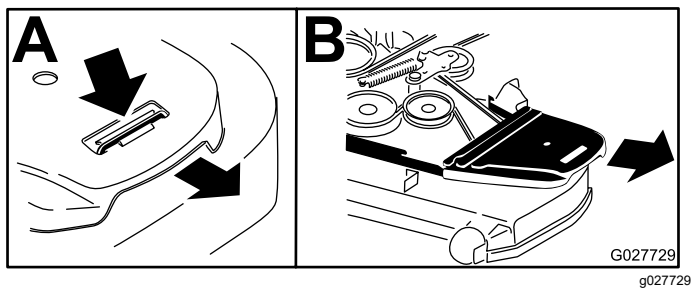

Figure 64
4. Remove the belt covers (Figure 64).